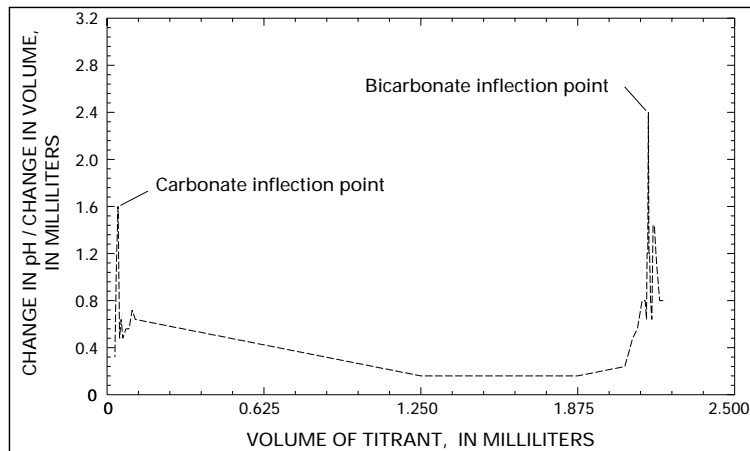

Figure 6.6–2. Example of an inflection point titration using a buret.
- ▶ The buret titration system is recommended to achieve the accuracy desired when using the Gran method: substitute the equivalence points determined by the Gran function plot into the equations given in the discussion of the buret system. The digital titration system also is used under some circumstances (illustrated on table 6.6–6 and fig. 6.6–4): refer to table 6.6–3 to calculate concentrations.
2. Plot $(V_o + V_t) 10^{-\text{pH}}$ against the titrant volume (fig. 6.6–4 and table 6.6–6) using the F_1 function for the bicarbonate equivalence point,
[Data shown in columns 1, 2, 6, and 7 are results of an incremental titration using a digital titrator—remaining columns show calculations used for the Gran function plot (fig. 6.6–4); V, volume of sample; v, volume of titrant; mL, milliliters; cts, digital counts; e-, base 10 logarithm to the negative exponent]